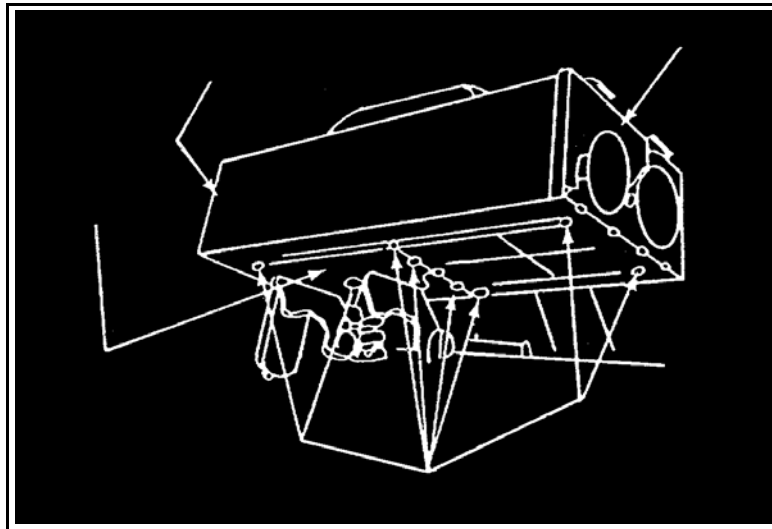

Figure 7. Mounting screws.
- (1) Loosen the eight mounting screws on the baseplate of the TOW launcher (use a 9/16-inch socket) (Figure 7).